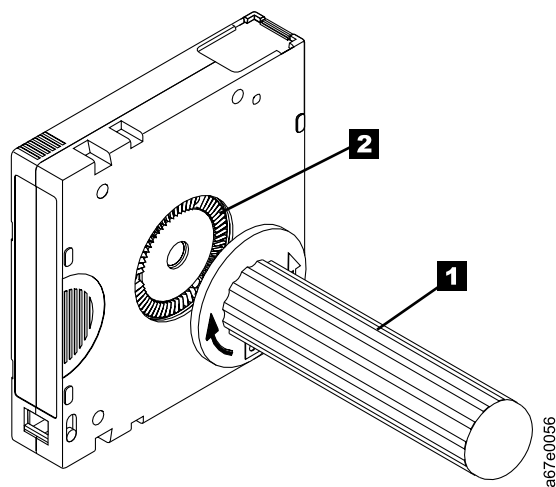

Figure 384. Rewinding the tape into the cartridge
5. To rewind the tape, insert the cartridge manual rewind tool (**1** in Figure 384) into the cartridge's hub (**2**) and turn it clockwise until the tape becomes taut.